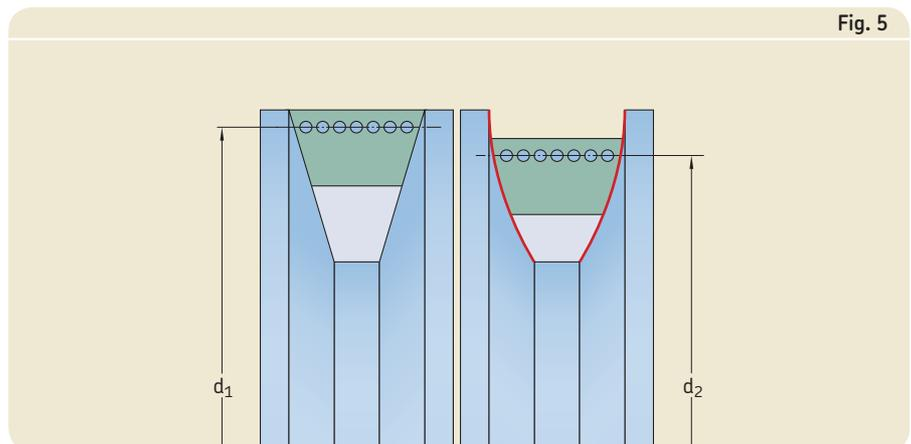

Fig. 5
- 2 Make sure that all pulley grooves are of the same size. Uneven wear of grooves causes belts to run on different diameter levels in the pulley. This generates excessive slip of the belts on one side and has an effect similar to mismatched belts on the other side (\rightarrow **fig. 5**).